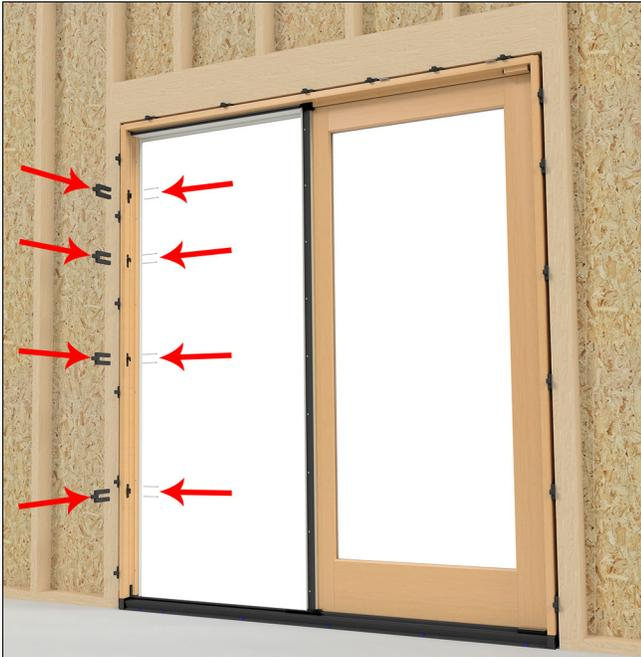

Figure 52
1. Once the operator panel is adjusted properly, remove the temporary screws from the adjustment bolts and the keepers. Replace these with #10 x 3" installation screws into the rough opening. Be sure to shim properly so that you do not bow the jamb. See Figure 52.